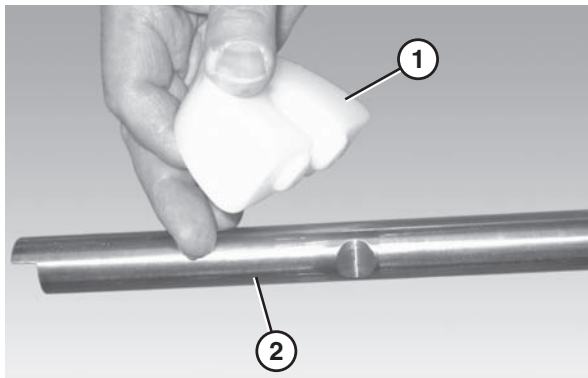

Figure 43
- Attach the chain return shoes (Figure 43, item 1) to the return shaft (Figure 43, item 2).